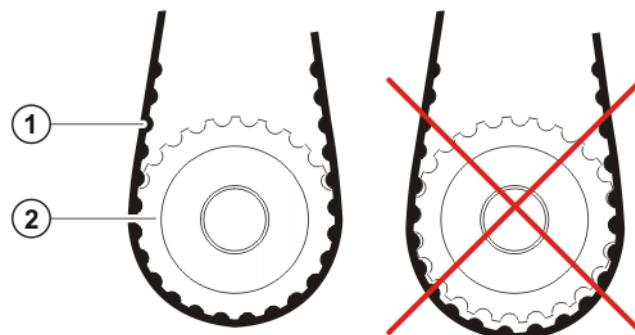

Fig. 9-5: Toothed belt and toothed belt pinion
4. Fit new toothed belts A5 and A6 in the in-line wrist. Ensure that the toothed belts mesh properly with the toothed belt pinions (**>>>** Fig. 9-5).